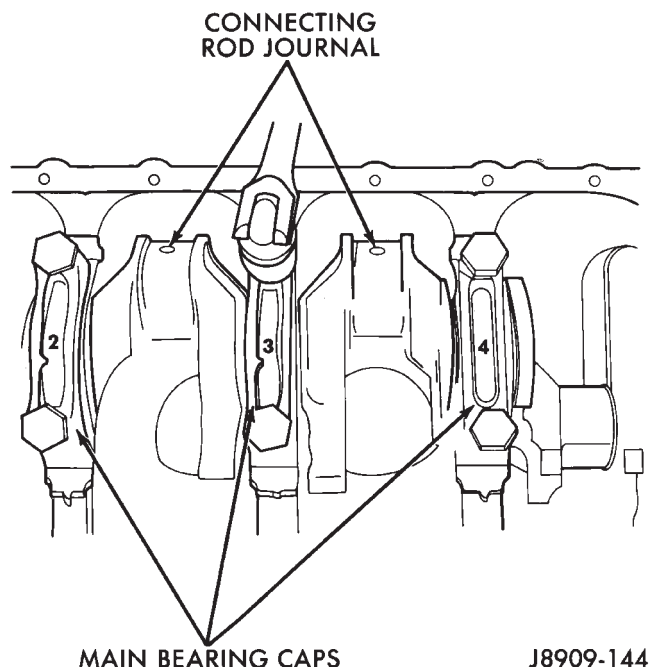

Fig. 53 Removing Main Bearing Caps and Lower Inserts
(1) Disconnect negative cable from battery.
(2) Remove the spark plugs.
(3) Raise the vehicle.
(4) Remove the oil pan and oil pump.
(5) Remove only one main bearing cap and lower insert at a time (Fig. 53).
(6) Remove the lower insert from the bearing cap.